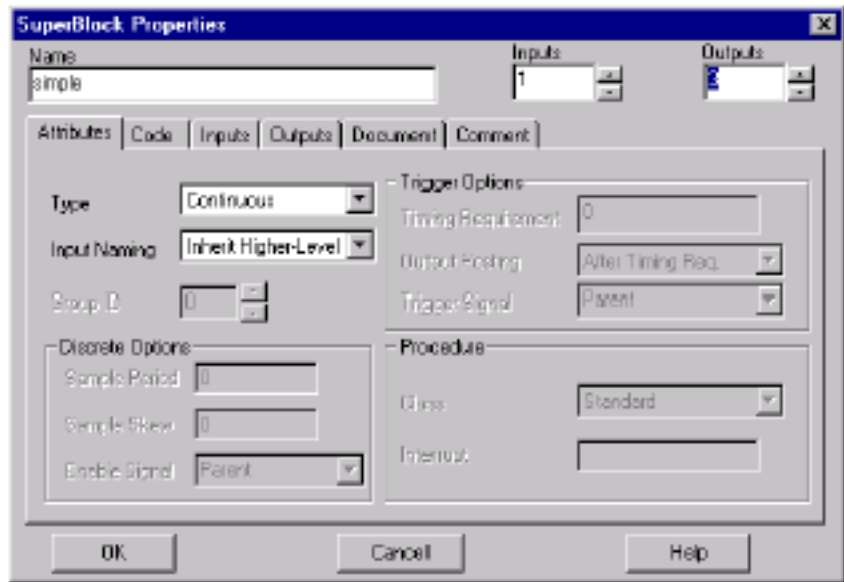

Figure 4-16. SuperBlock Properties for Sample SuperBlock
The SuperBlock Properties dialog appears (see Figure 4-16). Initially, the Attributes tab is active in the dialog, and all of the properties of a SuperBlock are set to their default values.
4. As shown in the dialog in Figure 4-16, perform the following steps: